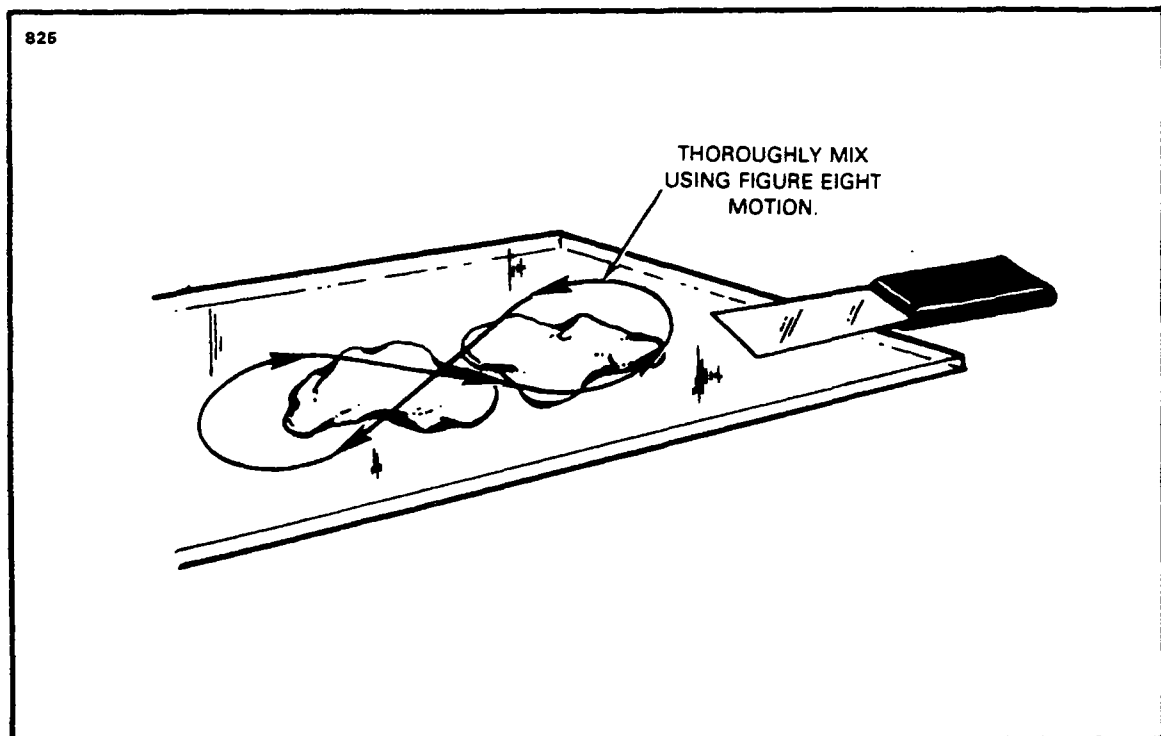

Figure 4-13. Mixing of Epoxy Patching Compound
- 6. The patching compound is mixed in equal portions on a hard flat surface using a figure eight motion. The damaged area is cleaned with perchlorethylene or VM&P Naptha prior to applying the compound. (Refer to Figure 4-13.)